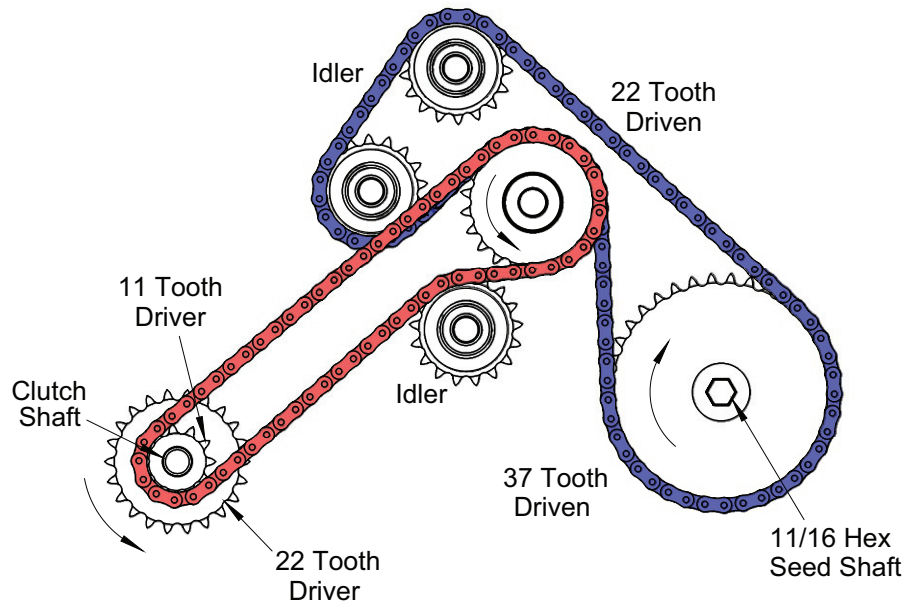

Figure 3-13: Front Seed Box Transmission Drive (After 01/2020)
5. Turn 11/16 hex Seed Shaft on the Transmission Clockwise(CW). **See Figure 3-13.**